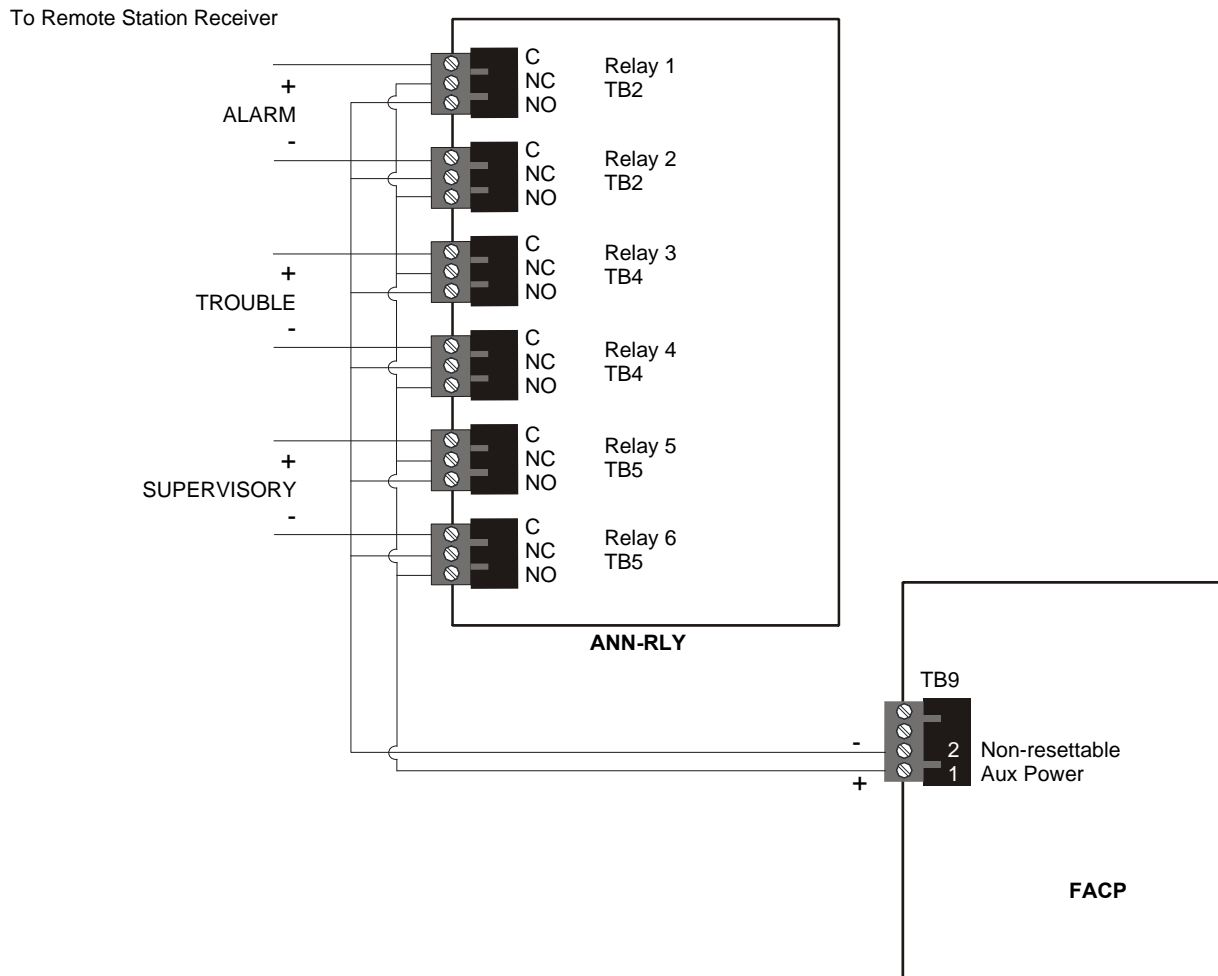

Figure F.2 Alternate Transmission for Alarm, Trouble, and Supervisory Signals
- To comply with CAN/ULC-S559-04, the ANN-RLY option must be utilized along with the configuration shown in Figure F.2.